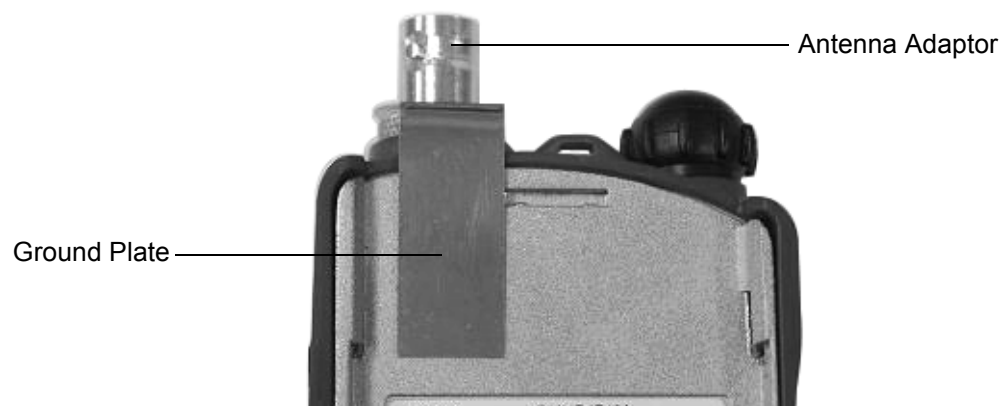

Figure 3-3.
2. Screw the antenna adaptor into the radio's antenna jack as shown in Figure 3-3.